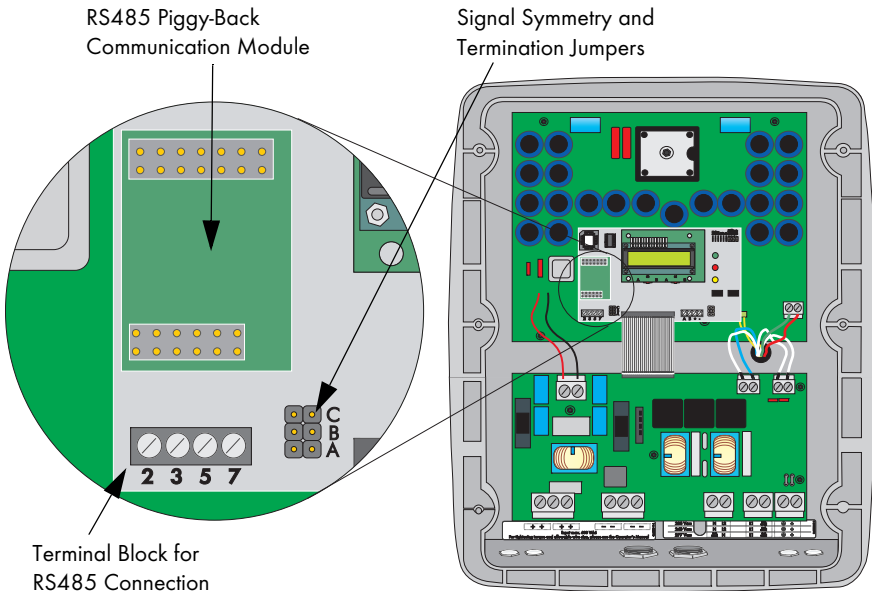

Figure 5-18: Detail of RS485 Termination and Jumper Settings
1. Connect the three wires of the RS485 cable to terminals 2, 5, and 7 of the communication terminal block as shown in Figure 5-18. Record the wire color used for each of the terminals. Torque the wires to 18 in-lb (2 Nm).